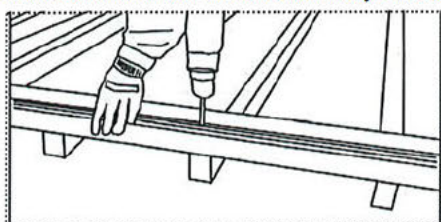

FIG 3
5. Also measure length at the centre of the building from wall to wall (A1 to A1) to ensure correct length before fixing to joists (fig3) with 80mm screws. Remove a small piece of tongue on single tongue logs for the screw. On double tongues drill between the tongues.